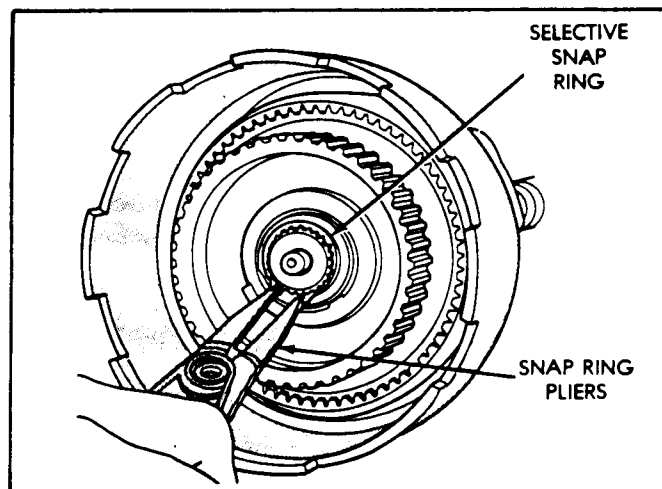

Figure 86
22. Install the snap ring onto intermediate shaft using snap ring pliers, as shown in Figure 86.